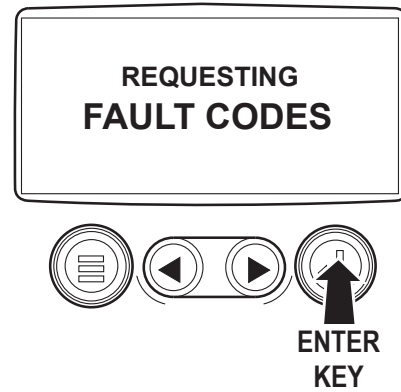

Figure 6 - Access Stored Fault Codes
3. Touch the Enter Key to view any stored fault codes. The display will respond by presenting a "Requesting Fault Codes" message while the system retrieves the codes. See Figure 6.